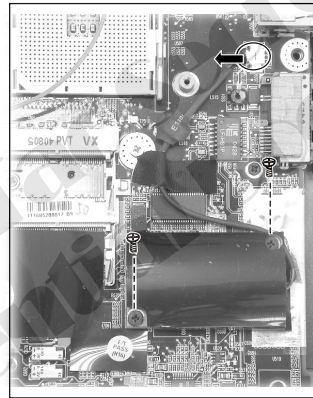

Figure 2-26 Free the modem card
3. Disconnect the cable from the system board, then remove the two screws fastening the modem card. (Figure 2-26)